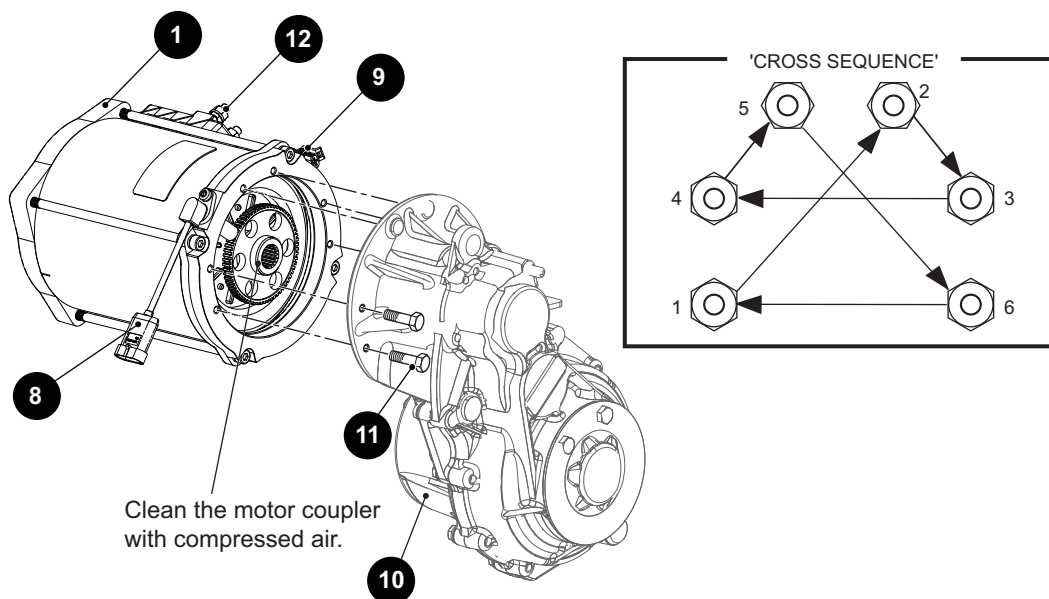

Figure 4 Motor Components
3. Disconnect the motor wires from terminals U, V, and W (12) (Ref. Figure 4) (Ref. Figure 5).
4. Disconnect the speed sensor (8) and temperature sensor (9). (Ref. Figure 4).
5. Remove the bolts (11) securing the motor (1) to the axle housing, and carefully slide the motor straight out from the axle splines.
3. Finger tighten the bolts (11) in a 'cross sequence' (Ref. Figure 4), then tighten in 25 in. lb (2.82 Nm) increments of torque using the same 'cross sequence' pattern to the torque values below.
4. Reconnect the temperature sensor (9) and speed sensor (8) wiring harnesses.
5. Reconnect the U, V, and W terminals (12) (Ref. Figure 4) (Ref. Figure 5) and tighten to the torque values below.